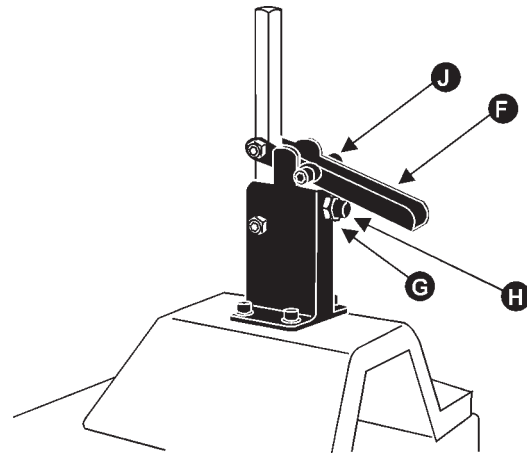

FIGURE 18
The hold-down base is factory adjusted to maintain vertical positioning of the rod. However, if adjustment is ever necessary, raise the handle (F) and loosen nut (G) with a wrench. Then turn the socket head screw (H) with an allen wrench, in or out until the rod is vertical. See Figure 18. When satisfied, re-tighten the nut (G). Loosen the soc. hd. screws (J) on the handle and adjust the eccentric washers behind them so that the handle can be lowered all the way but still maintain a degree of tightness. Re-tighten screws.
When changing cutters, simply lift handle on hold-down base (F), Figure 18, and flip entire assembly back out of the way.